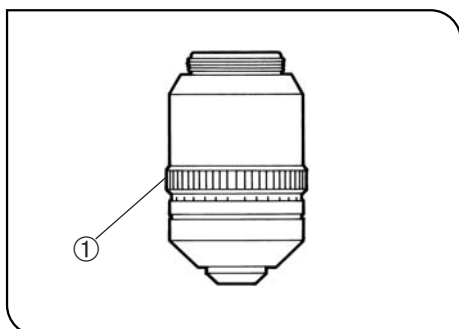

Fig. 34
- If the cover glass thickness is known, set the correction collar ① to that value. (Fig. 34)
- If the cover glass thickness is unknown, adjust the correction collar ① and fine adjustment knob alternately until the positioning with the highest resolution is obtained.